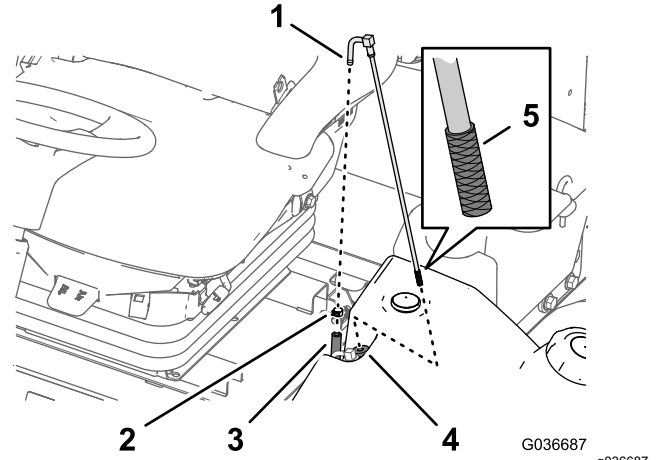

Figure 58
1. Remove the hose clamp that secures the fuel supply hose to the fitting of the fuel-pickup tube (Figure 58).
2. Separate the hose from the fitting (Figure 58).
3. Lift the fuel-pickup tube from the fuel tank (Figure 58).
4. Clean any debris from the screen at the end of the fuel-pickup tube (Figure 58).
5. Insert the fuel-pickup tube through the rubber bushing and into the tank (Figure 58).